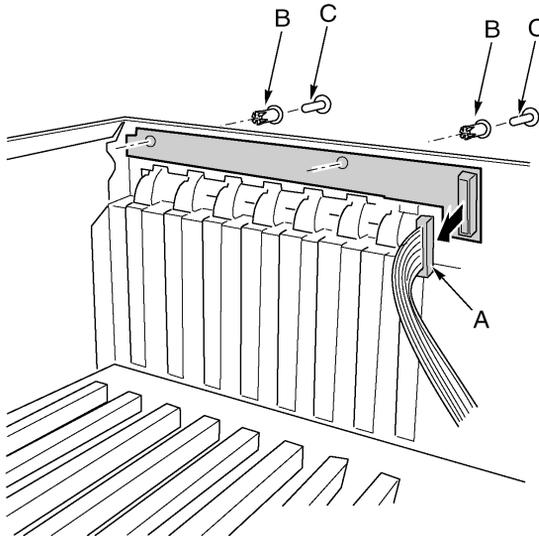

Figure 57 - Removing the hot-plug indicator board
- 3 Remove the two plastic rivets that secure the board to the electronics bay (Figure 57, C).